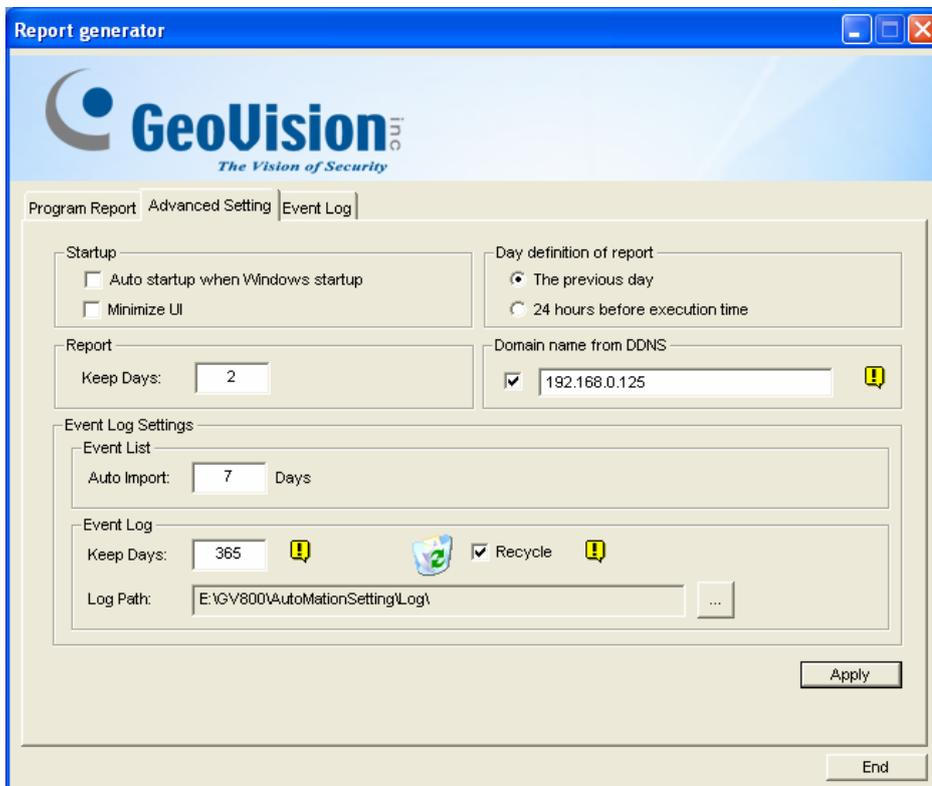

Figure 10-71
- ⊙ If you select **Previous day** on the Advanced Setting tab (Figure 10-71), the report will be generated on the data of one day before your specified date. For example, you enter "12/10/2007" in the **Select Date** drop-down list. The report is generated on the data of 9th December 2007.
- ⊙ If you select **24 hours before execution time** on the Advanced Setting tab (Figure 10-71), the report will be generated on the data of 24 hours before your specified date and time. Specify the date and time by using the **Select Date** and **Select Time** drop-down lists.
- ⊙ If you select **Previous day** on the Advanced Setting tab (Figure 10-71), the generated report will contain the data of 7 days before your specified date. For example, you enter “12/10/2007” in the **Select Date** drop-down list. The report is generated on the date from December 3rd to 9th in 2007.
- ⊙ If you select **24 hours before execution time** on the Advanced Setting tab (Figure 10-71), the generated report will contain the data of 7 days counting back on your specified date and time. Specify the date and time by using the **Select Date** and **Select Time** drop-down lists. For example, if you enter “12/10/2007” and “01:00”, the report is generated on the time from 01:00 am, December 10th to 01:00 am, December 4th, 2007.
3. If the **Domain name from DDNS** field on the Advanced Setting tab (Figure 10-71) is not selected, this dialog box will appear.